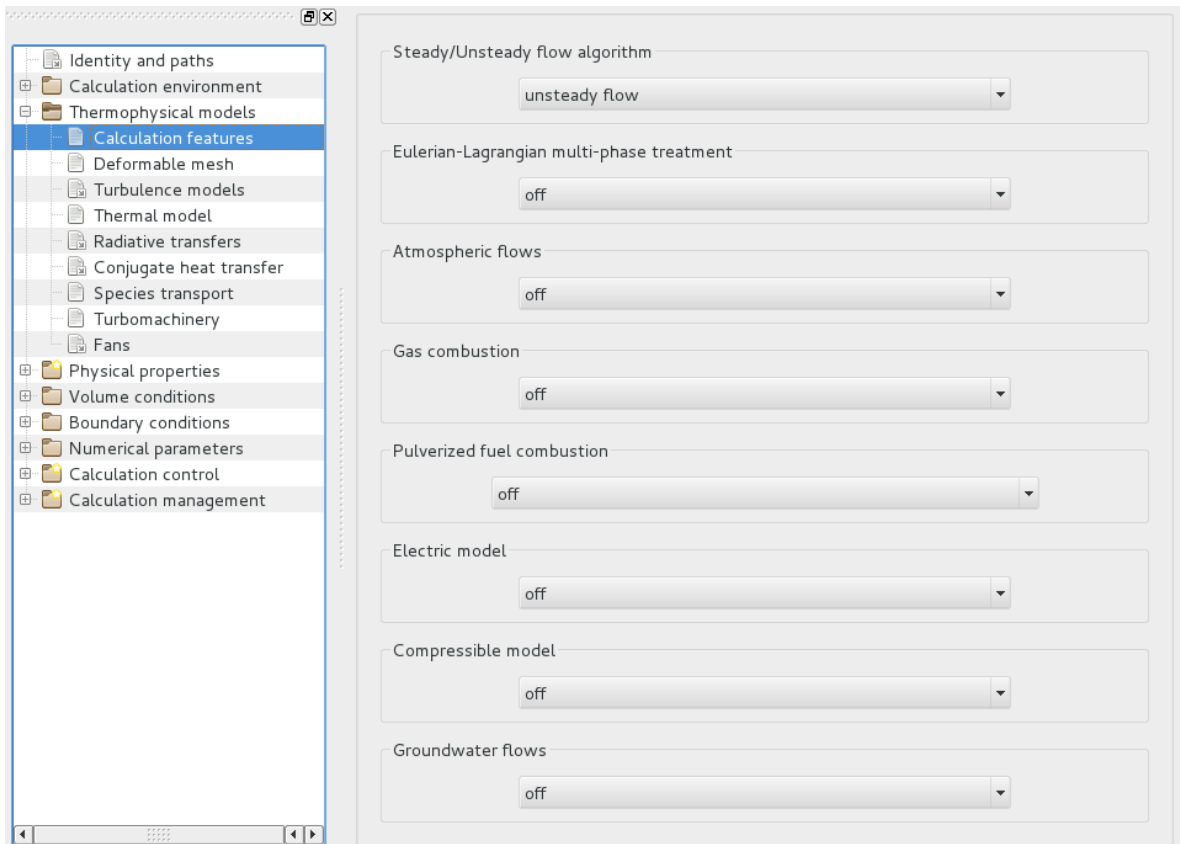
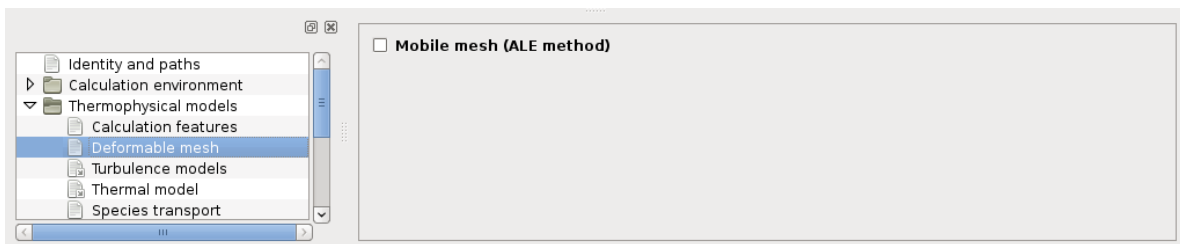

Figure 10: Calculation features options
Figure 11: Mobile mesh option
This operation is done in the Graphical User Interface (GUI) or by using the user subroutines in `cs_user_parameters.f90`. In the GUI, the initialisation is performed by filling the parameters displayed in Figure 10 to 27. If the option 'Mobile mesh' is activated in Figure 11, please see Section 7.11.4 for more details. The headings filled for the initialisation of the main parameters are the followings:
- Thermophysical model options: Steady or unsteady algorithm, specific physics, ALE mobile mesh, turbulence model, thermal model and species transport (definition of the scalars and their variances), see Figure 10 to Figure 14. If a thermal scalar, temperature or enthalpy, is selected, two other headings on conjugate heat transfer and radiative transfers can be filled in (see Figure 13).